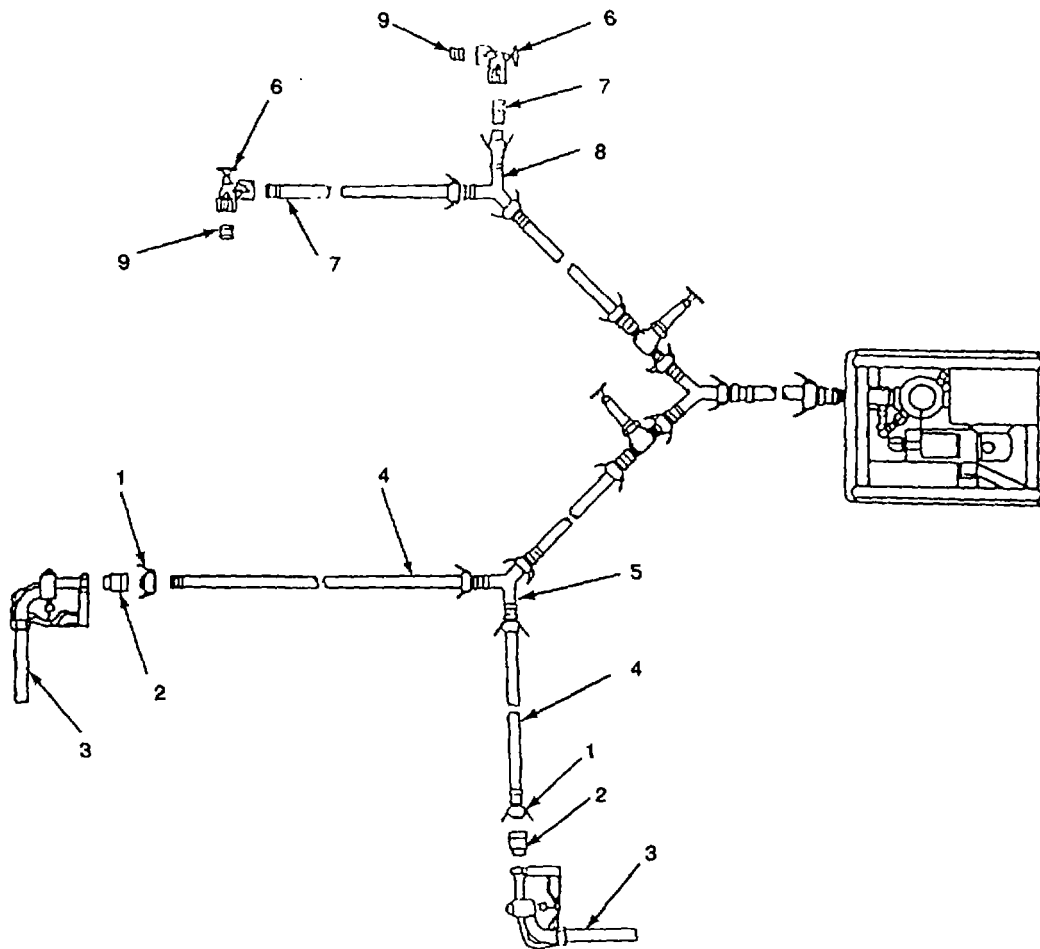

Figure 2-26. Distribution Point
- (37) Wrap anti-seize tape (Item 10, Appendix E) around threads of male end on two reducers (1, Figure 2-26). Screw reducers (1) into two hose swivels (2). Screw hose swivels (2) into each of the two nozzles (3).
- (38) Wrap anti-seize tape (Item 10, Appendix E) around threads of hose swivels (2). Screw hose swivels (2) into each of the two nozzles (3).